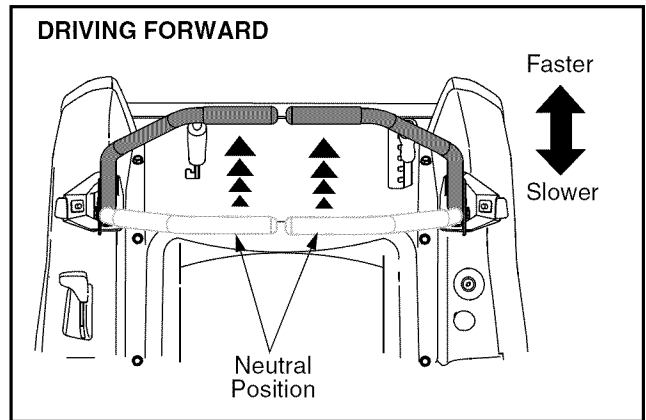

Figure 13
- Slowly and evenly move both drive control levers forward. The tractor will start to move forward. See Figure 13.